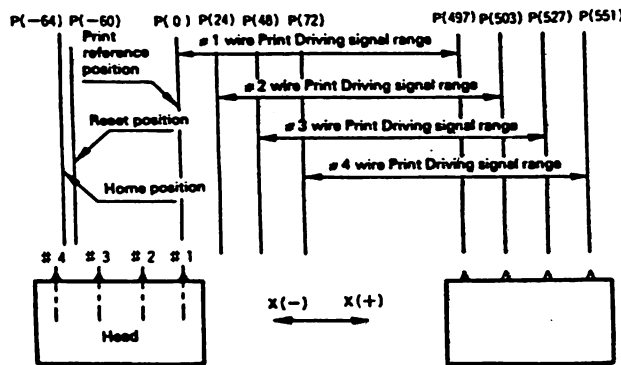

Fig. 1-15. Print Driving Signal Range of Each Wire
Fig. 1-15 shows the range of the Print Driving signal for each wire, where the print reference position of the head is represented as P(0) and the head position as P(n).